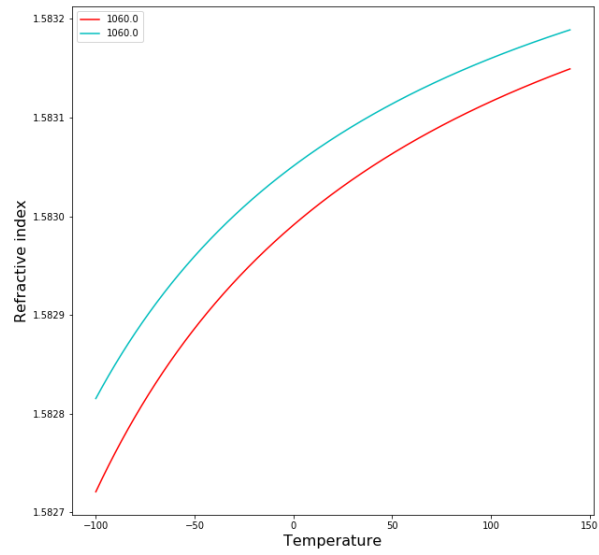
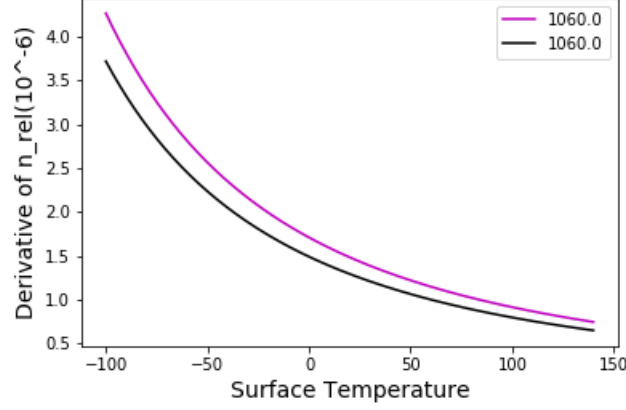

Figure 28: light blue color for pressure at  $P=90000$  Pa and red color for pressure  $P = 103250$  Pa
Figure 29: rate is decreasing with temperature
Now refractive index at any given temperature and pressure is calculated from equation (30). In catalog, J-PSKH1 has reference temperature 23 celcius and I found the refractive index at temperature 40 celcius at pressure 103250 Pa. It gave the answer at wavelength 1060 nm around 1.5830508417073328. And at reference temperature with one atmospheric pressure is 1.5830354695353313. But if we keep temperature constant and decrease the pressure at 90000 Pa of surrounding then value is 1.5831030086722035. As we can see from data for refractive index at constant temperature but different pressure gives the different values. Reason for this trend is same as for N-BK7 and K-LAH99. Now the plot between refractive index for particular wavelength with temperature is in figure 28. For J-PSKH1, the refractive is increasing with increasing of temperature. Now fourth plot is between change of rate of derivative of relative refractive index with temperature at pressure 103250 Pa. This gives the rate at which relative refractive index changes with temperature. In the figure 29, the rate is decreasing continuously with temperature. Here the rate is in only positive portion. So these are all analysis of J-PSKH1 from given catalog.